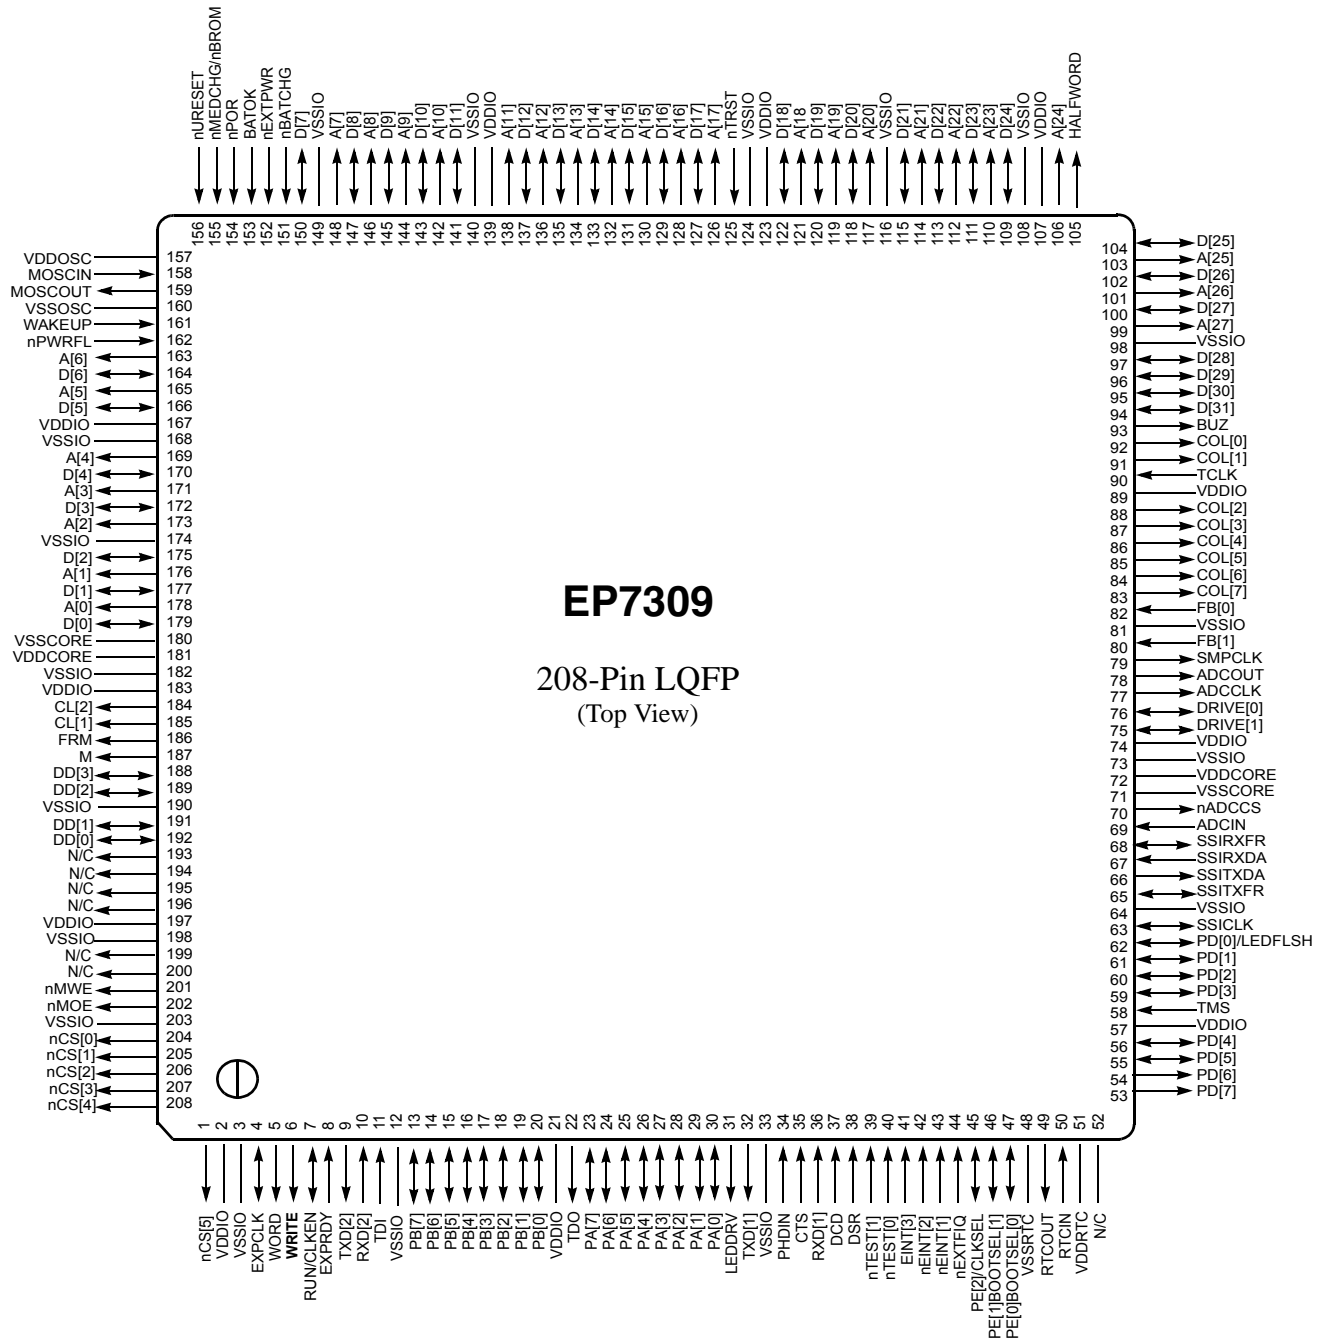

Figure 12. 208-Pin LQFP (Low Profile Quad Flat Pack) Pin Diagram
- 4) For pin locations, please see Figure 12. For pin descriptions see the EP7309 User's Manual.